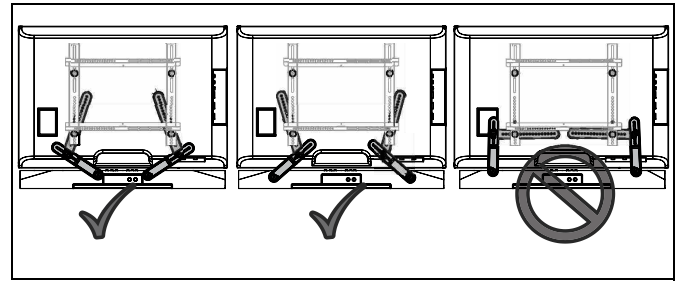

Figure 11
**NOTE:** The soundbar brackets (A) should be positioned as vertically as possible. (See Figure 11)